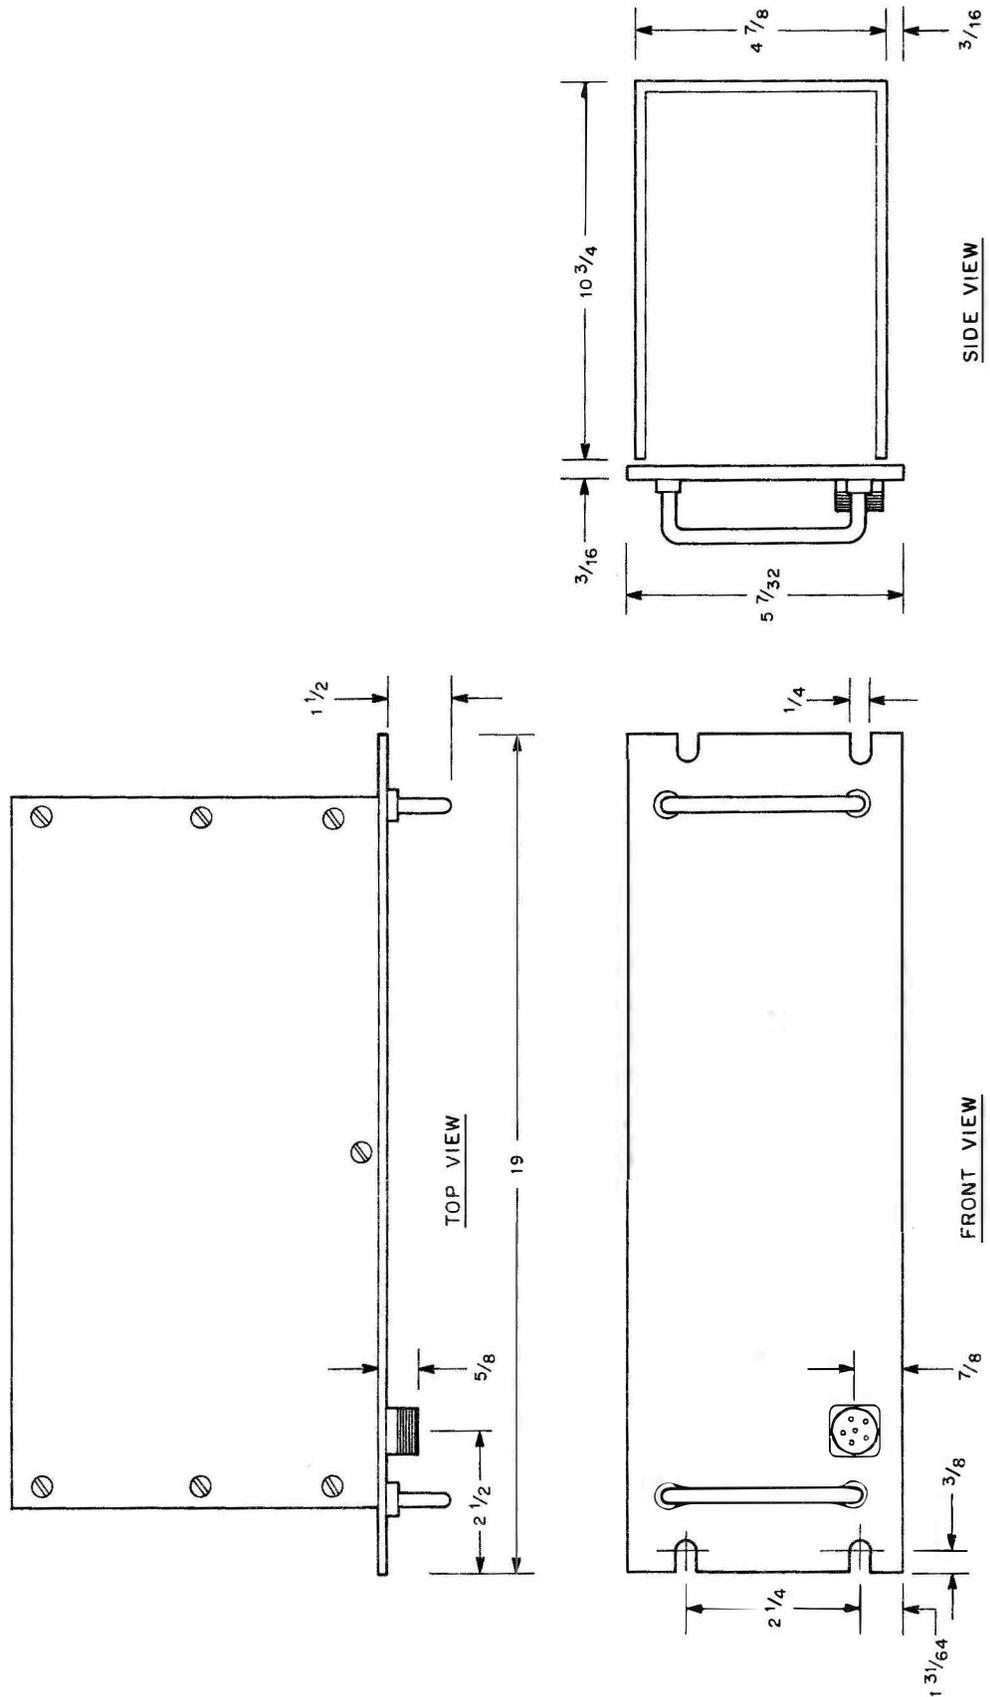

Figure 2-1. Signal Generator, SG-376A/U, Outline Drawing
- b. The equipment chassis may be removed from its case and mounted on a 19-inch equipment rack. Outline drawings are given in Figure 2-1.